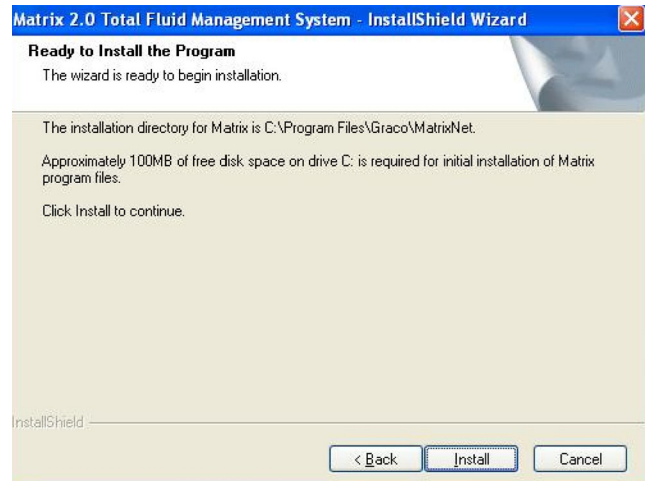

FIG. 19 Setup Path 1 - Ready to Install
- Setup is ready to install Matrix application files (FIG. 19). Click **Install**.